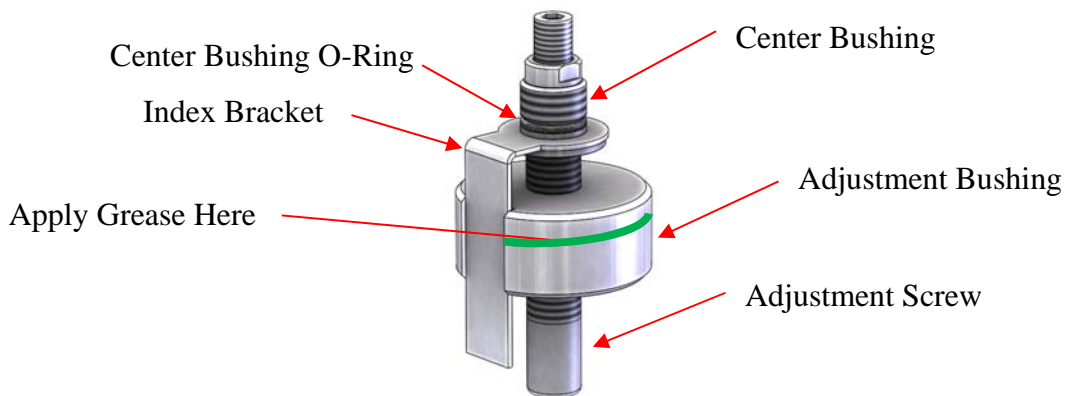

Figure 50: 2" Inner Bonnet Components
3. Lubricate the outer surface of the adjustment bushing. See Figure 50.
9. Install the center bushing and index bracket over the top of the adjustment screw. The center bushing should be oriented with its wrenching flats towards the top of the adjustment screw. The angle portion of the index bracket should be pointed downwards and be aligned with the notch of the adjustment bushing. The current subassembly should look like Figure 50.